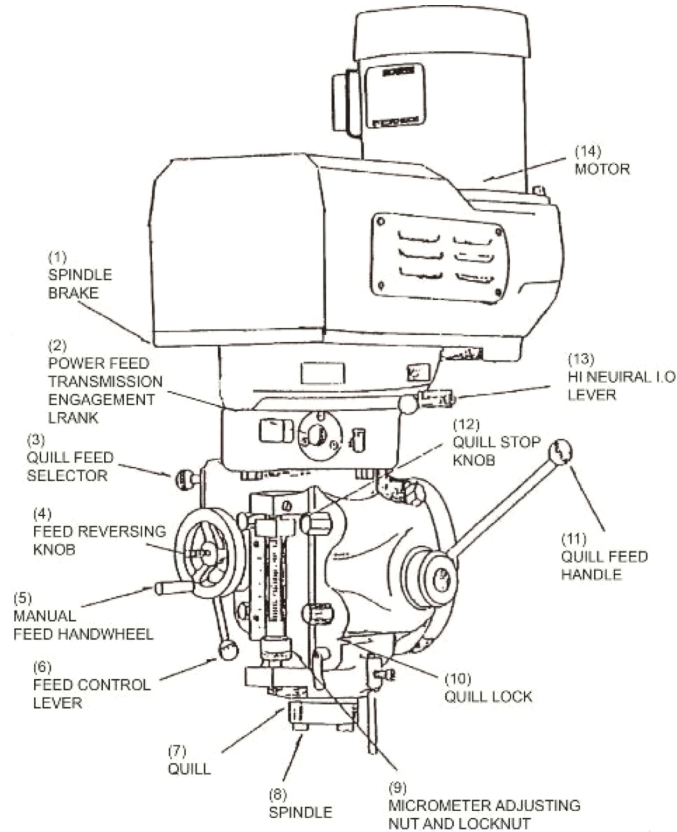

Figure 9 Inverter Variable Speed Head
SPINDLE BRAKE (#1 Figure 9):
POWER FEED TRANSMISSION ENGAGEMENT CRANK (#2 Figure 9):
QUILL FEED SELECTOR (#3 Figure 9):
FEED REVERSING KNOB (#4 Figure 9):
MANUAL FEED (#5 Figure 9):
FEED CONTROL LEVER (#6 Figure 9):
MICROMETER ADJUSTING NUT (#9 Figure 9):
QUILL LOCK (#10 Figure 9):
QUILL FEED HANDLE (#11 Figure 9):
QUILL STOP KNOB (#12 Figure 9):
HI-NEUTRAL-LO LEVER (#13 Figure 9):
When tightening or loosening the drawbar it is necessary to lock the spindle. To accomplish this. Use the spindle brake (#1. Figure 9) which is located on the left side of belt housing. Turning it either to the right or left until it binds, then raise the quill feed handle (#11. Figure 9). Drawbar has 5/5-11 NC right hand thread and should be tightened with normal amount of pressure using wrench furnished with machine. To loosen collet back off drawbar and if collet does not open immediately give knob on top of drawbar a slight tap. Spindle has non-sticking taper and collet should release readily.
2. Remove the cover (B. Figure 10) at the lower end of the motor shaft. Use two cover screws (A) to fasten the spring © on the lower end of the motor shaft. to the lower motor vari-drive pulley. This will reduce the hazard of personal injury that is always present when a heavy spring is under compression. When the pulley. The spring retainer and spring are securely fastened as a single unit. Crank the speed change handwheel (#16 Figure 9) to top speed position.
3. Now, remove the screw (D) that secures the motor to the belt box. The motor should be slightly lifted, and then firmly pulled away from the spindle and toward the rear of the belt cover. This will pull the box drive belt deeply into the main shaft pulley. Provides the slack required to transport the belt to the motor pulley.
4. Now lift the motor high enough to rest the motor base GENTLY on the adjusting screw (E) seen directly in front of the motor flange. The bell can now be slipped over the lower pulley and the motor removed from the housing.
Complete the operation for removing the motor. Then put the Hi Neutral Lo lever (#15. Figure 9)